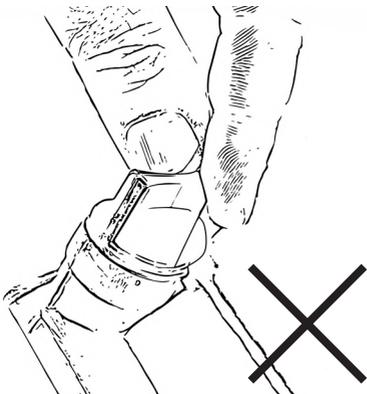

Figure 20
Never turn the oil filler plug with connected dipstick into the thread when reading the oil level. This leads to an incorrect measurement result, Fig. 20.
- Immerse the dipstick completely in the oil. Never turn the dipstick into the thread, Fig. 20.